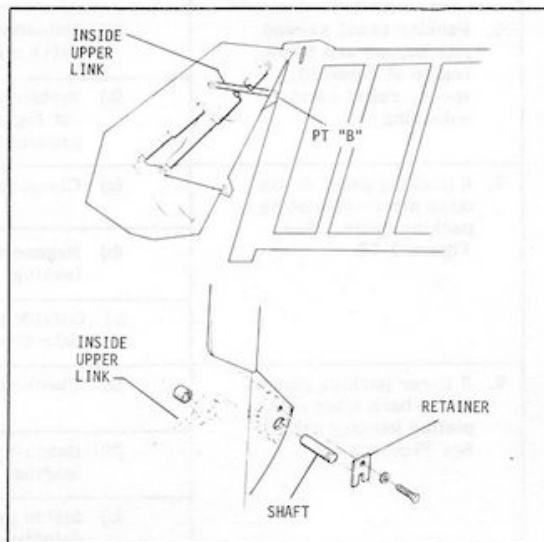

Figure 3-14. Inside Upper Link Removal
- d. Open the tailgate to a position of two feet as shown in figure 3-14. Block and secure using chain fall.
- e. Remove retainers and shafts from the inside upper links (point "B", figure 3-14). Remove inside upper links (one each side).